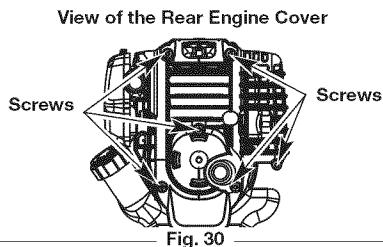

Fig. 30
- Remove the six (6) screws on the back of the engine cover with a Flat-head or T-25 Torx screwdriver (Fig. 30).
- Remove the engine cover (Fig. 30).